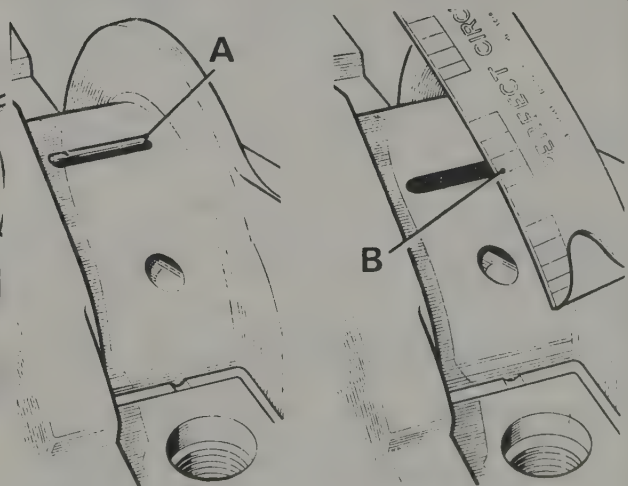

Fig. 1.56. Using Plastigauge to check bearing clearance
- With a piece of the Plastigauge laid on the top of each main bearing journal, (Fig. 1.56) refit the bearing caps as though re-assembling.